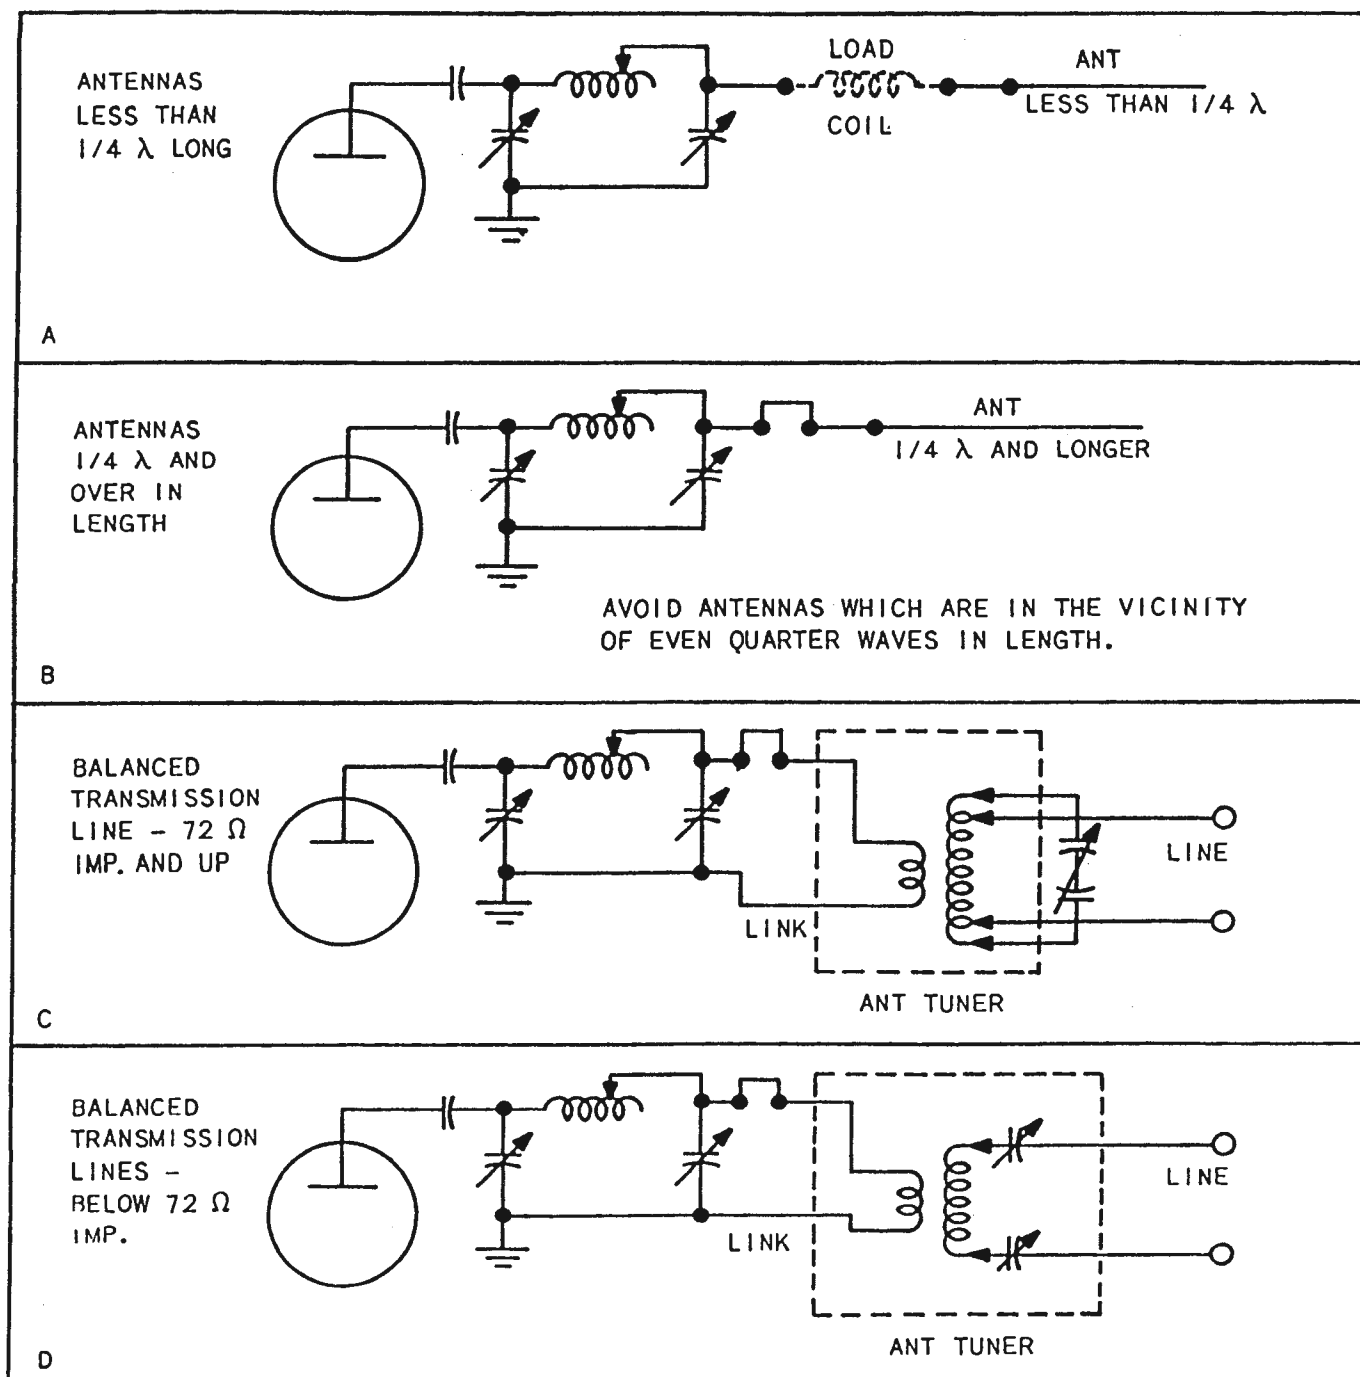

Figure 2-5 Applicable Antenna Circuits
(2) MICROPHONE - The push-to-talk and microphone connection are made by means of Amphenol type MC 4M four connector plug. The receptacle is located at the rear of the chassis and the microphone cable may enter the side of the cabinet, a 7/8" hole is provided. The ring on the microphone plug should be securely tightened. For LOCAL push-to-talk operation, place TEST KEY in the "locked" position and remove the jumper from terminals 5 and 6 on Unit C (speech amp and modulator).
(3) RADIATION SYSTEM - The output networks will match an extremely wide range of antenna impedances with excellent efficiency. At lower frequencies, and for antenna less than a quarter wave in length, provision is made for load coils which will assist in matching the antenna impedance. Unbalanced antenna and single wire or concentric transmission lines can be matched directly. See figure 2-5 for suggested antennas and circuits.